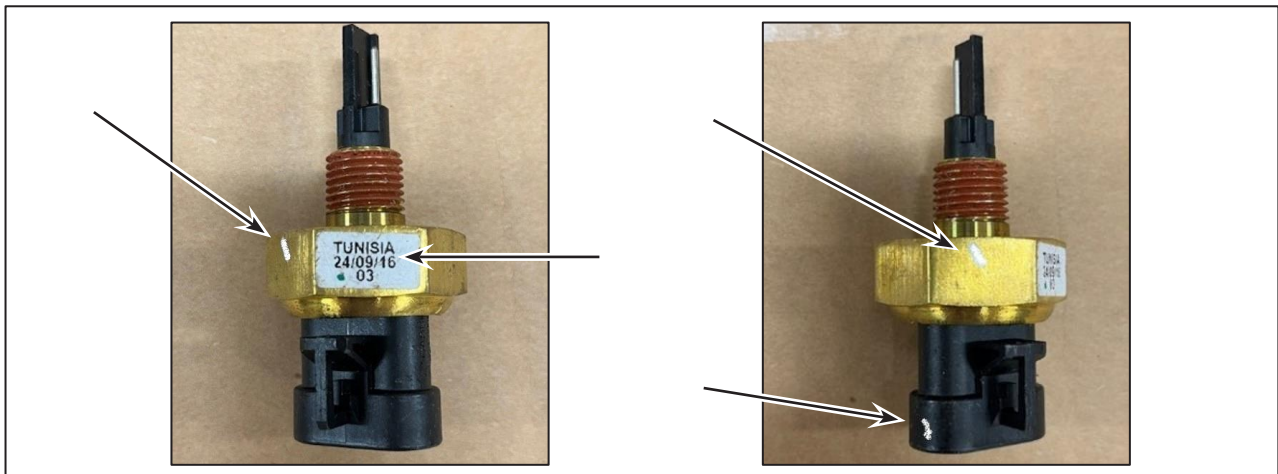

Figure 2 - Inspection Points to Define if the Sensor is Good or Defect
1.5. Inspect the sensor coolant level according to the criteria in Table 1 and Figure 2. Follow the recommended action in Table 1.